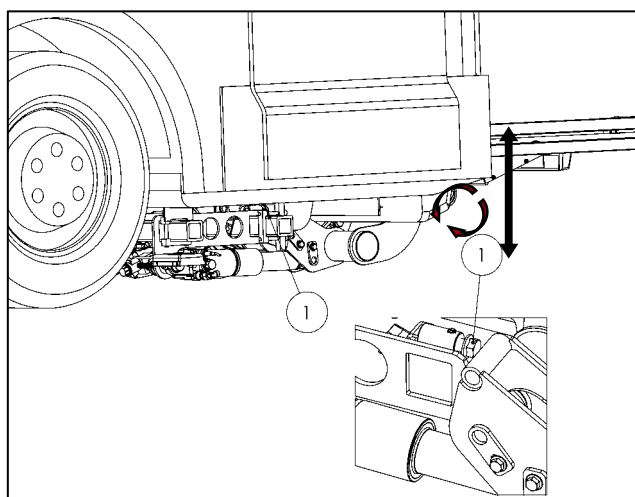

Fig. 69
- Use the adjustment screw (1) to set the lift height (see Fig. 69)